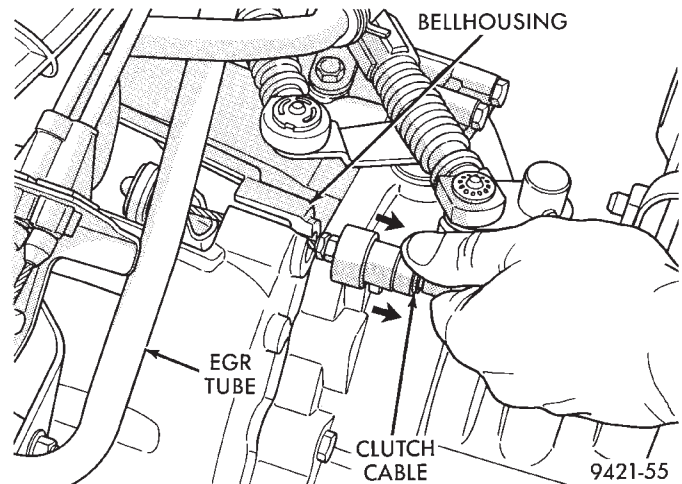

Fig. 19 Clutch Cable Removal
- (1) Disconnect the battery negative cable at strut tower.
- (2) Remove air cleaner at throttle body base inlet.
- (3) Remove clutch housing vent cap, exposing the clutch cable end and clutch release lever. Then remove clutch cable from transaxle bellhousing (Fig. 19).